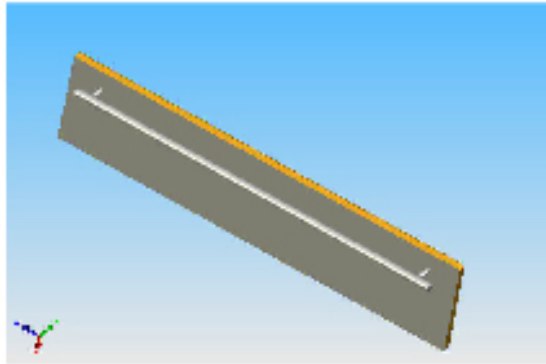

Figure 1
- As shown in Figure 1, a handle may be attached to the custom front panel if desired. Remember to countersink the handle screws, so the back surface is flush for attachment to the metal drawer front.